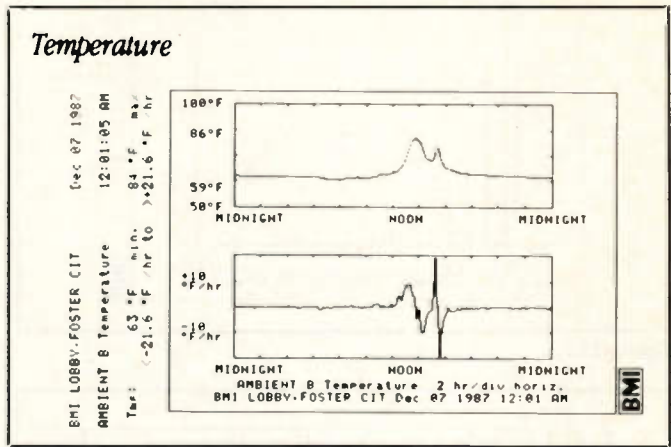

Figure 8.
7. Temperature fluctuations stress electronic systems. This stress can lead to malfunctions and can shorten a system's life. See Figure 8.